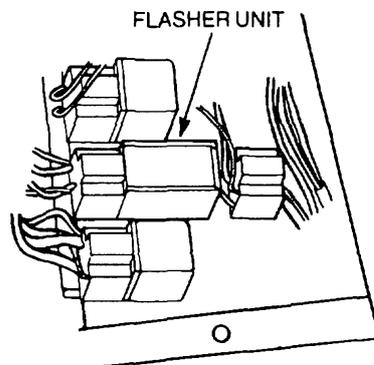

Figure 203 Flasher Unit Removal
- d. Remove the flasher unit from the socket (Figure 203).